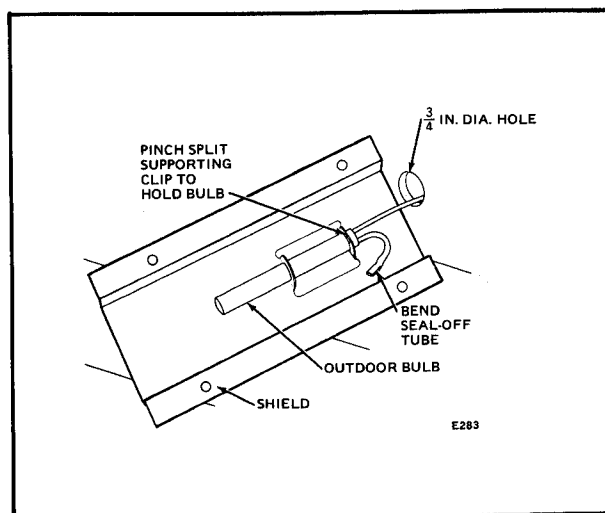

FIG. 12—INSTALLATION OF BULB IN OUTDOOR BULB GUARD.
1. Drill a 3/4 in. [19.1 mm] hole in the outside wall at the mounting location as shown in Fig. 12. Make sure that hole is located between studs.
4. If the seal-off tube protrudes from under the guard, carefully bend it under as shown in Fig. 12.